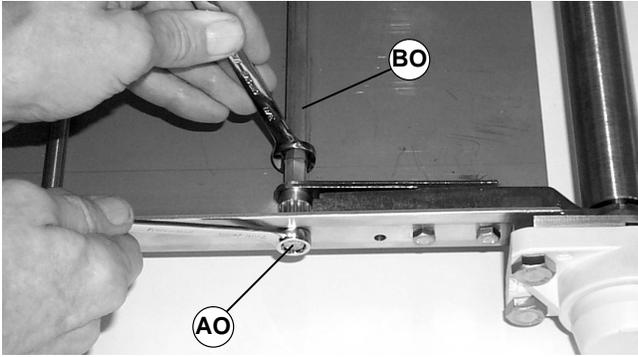
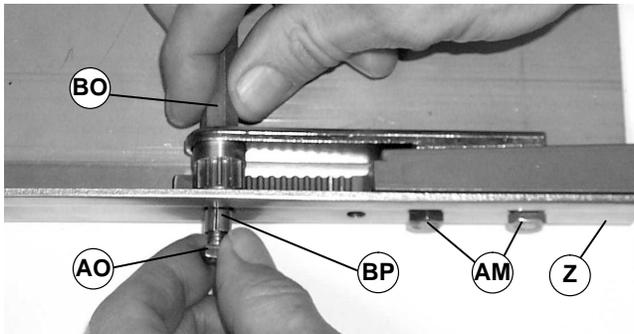
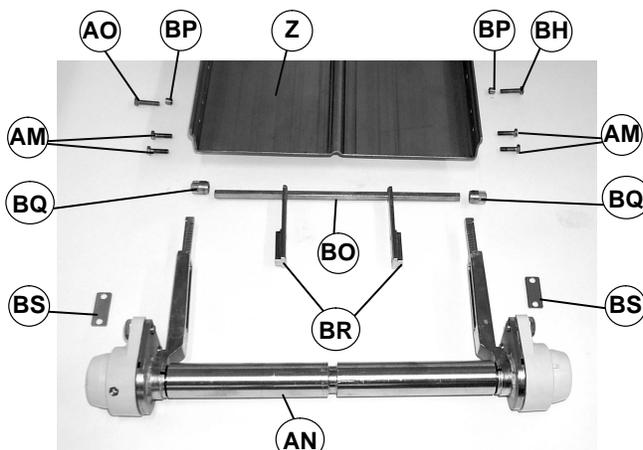

Figure 39
Figure 40
Figure 41
1. While holding hex pinion (BO of Figure 39) with a 3/8" open-end wrench, loosen M6 hex head cap screw (AO).
- Remove M6 hex head cap screw (AO of Figure 40) and sleeve (BP) from conveyor (Z) and hex pinion (BO).
- Repeat steps 1 and 2 for screw (BH of Figure 41) on opposite side of conveyor.
- Remove two M6 hex head cap screws (AM) from each side of conveyor.
- Remove two pinion ends (BQ), clamp blocks (BR), hex pinion (BO), two spacers (BS) and tail assembly (AN) from conveyor (Z).
**IMPORTANT:** Loosely install a spacer (BS of Figures 41 and 47) on each side of tail assembly (AN) prior to installing tail assembly on conveyor.
4. Loosely install two pinion ends (BQ of Figures 41 and 48), hex pinion (BO) and clamp blocks (BR) on tail assembly (AN) and conveyor (Z) with four M6x20mm hex head cap screws (AM of Figure 40), two sleeves (BP) and two M6x25mm hex head cap screws (AO).
5. While holding hex pinion (BO of Figure 39) with a 3/8" open-end wrench, tighten two screws (AO of Figure 39 and BH of Figure 41) to 33 in-lb (3.7 Nm).
6. Tighten four screws (AM of Figure 40) to 33 in-lb (3.7 Nm).